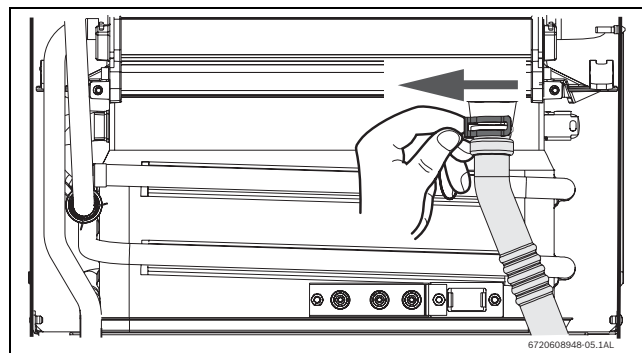

Fig. 46
- ▶ Remove the clip and disconnect the drain pipe (→ Fig. 46).